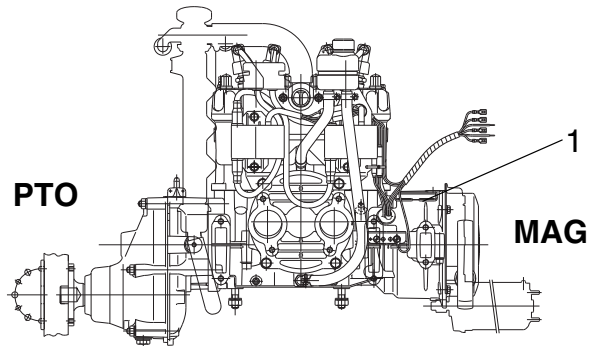

Fig 1
The engine serial number (1) is located on water cooled ROTAX® 2-stroke engines at the crankcase assy. See Fig 1.